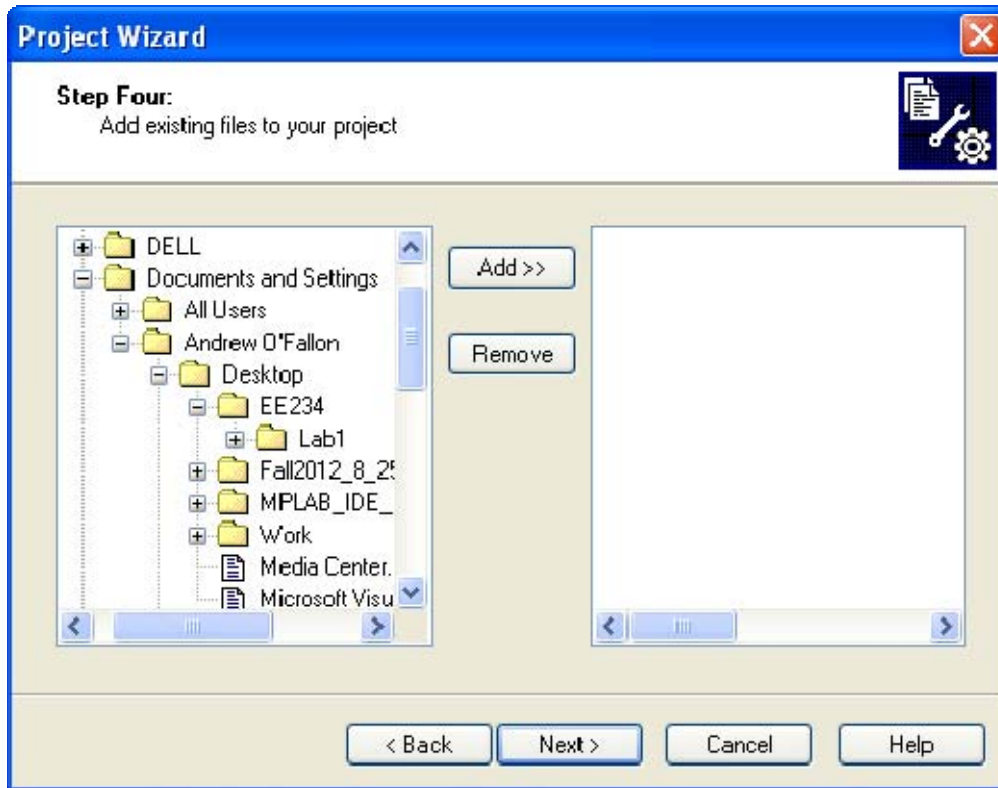

Figure 9: Adding Existing Files to Project
Step 7: At this point in our class you most likely do not have any pre-existing files that you want to “Add >>” to the project, so click the “Next >” button (see Figure 9).